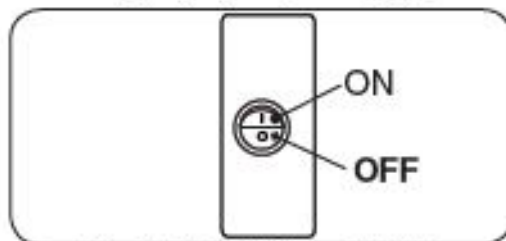

Fig. 17-1 Switch box, ON/OFF
1. Locate the ON/OFF switch at the front of the switch box. Press the switch to the OFF (O) position. See Fig. 17-1.